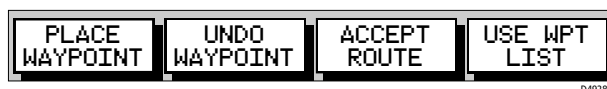

Figure 3-27: Make Route Soft Keys
- Press the MAKE ROUTE soft key; the make route soft keys are displayed (*Figure 3-27*).